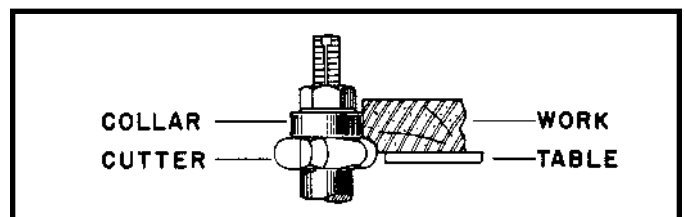

Fig. 68
3. When the collar is used above the cutter (Fig. 68), the operator will be unable to see the cut. However, the advantage in this method is that the cut is not affected by slight variations in the thickness of the stock. Also, accidental lifting of the work will not gouge the workpiece. Simple correction for the mistake is to repeat the operation.